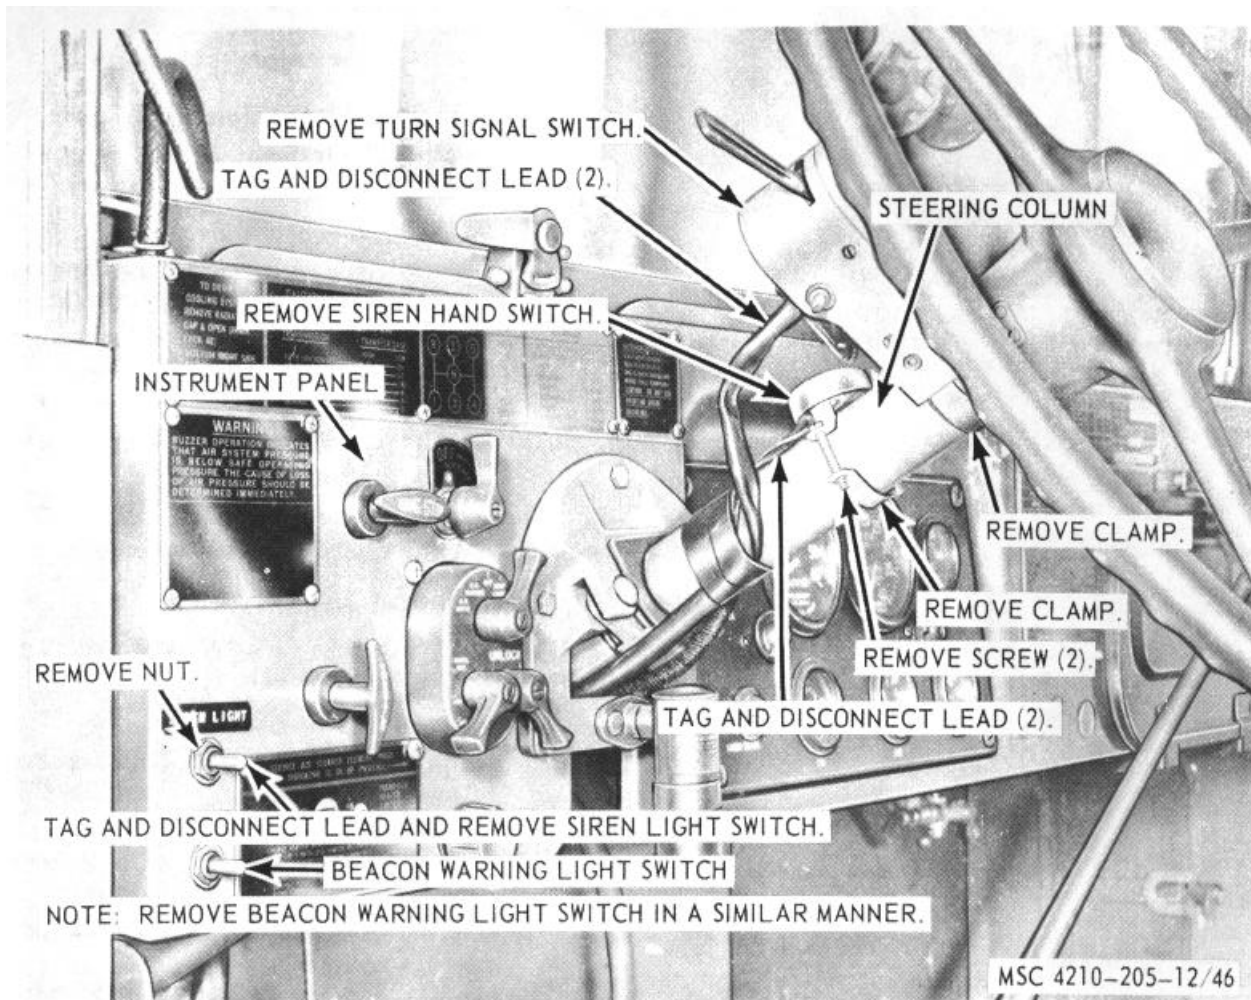

Figure 46. Beacon warning light switch and siren light switch, removal and installation.
- a. *Removal.* Refer to figure 46, and remove the beacon warning light switch from the instrument panel.
- (1) Clean all parts with a clean cloth dampened in an approved cleaning solvent, and dry thoroughly.
- (2) Inspect all parts for damaged or defective condition.
- (3) Replace or repair damaged or defective parts as necessary.
- c. *Installation.* Refer to figure 46, and install the siren light switch on the instrument Panel.
- a. *Removal* Refer to figure 46, and remove the siren light switch from the instrument panel.
c. Installation. Refer to figure 46, and remove the siren light switch from the instrument panel.
a. Removal. Refer to figure 46, and remove the beacon warning light switch from the instrument panel.
c. *Installation.* Refer to figure 46, and install the siren light switch on the steering column.